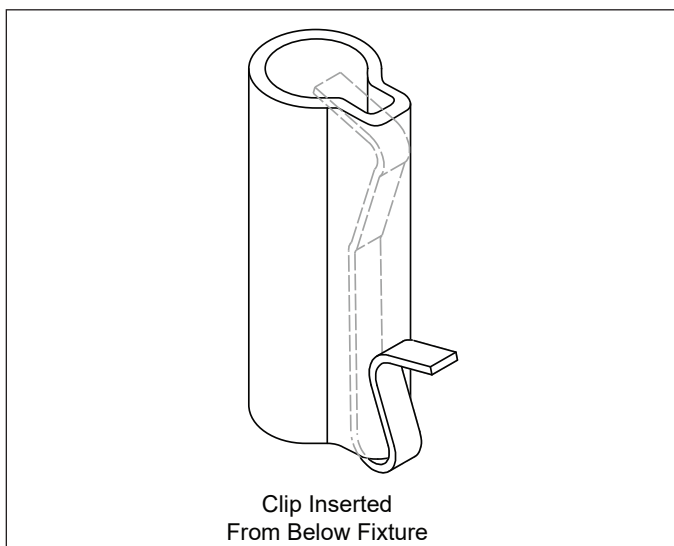

Figure 105 - Clip Inserted from Below Fixture
17 Locate the three (3) new sensor clips provided in the kit and properly orient each one so they will easily slide into fixtures (Figures 105 & 106). Once clips have been inserted into fixtures, carefully insert sensors into fixtures such that the sensors fully seat.